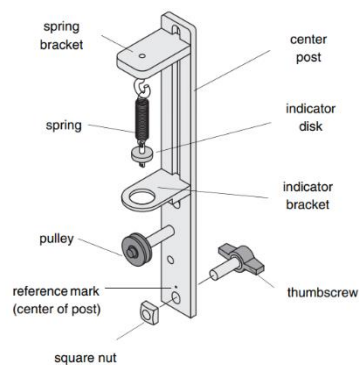

Fig. 2. Center Post Assembly
- (iv) Assemble the Center Post (See Fig. 2)